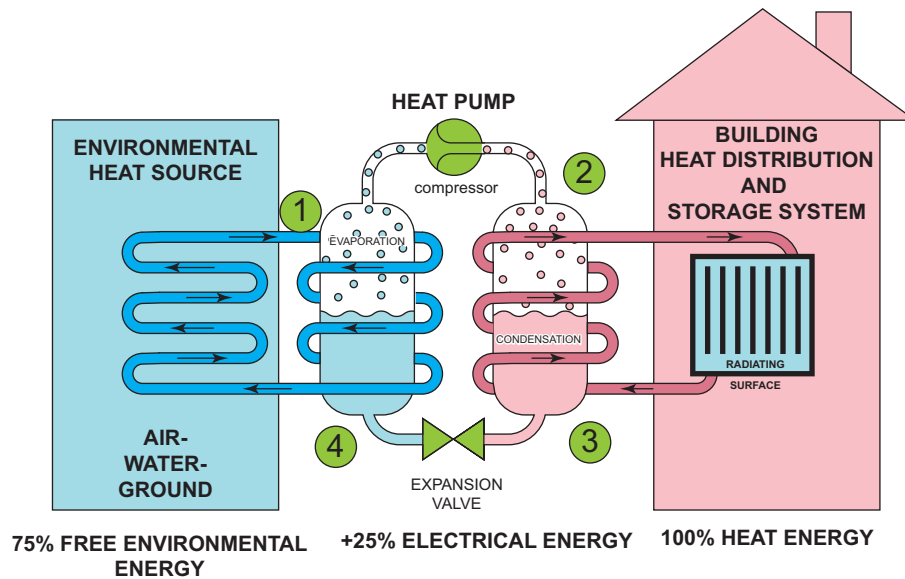

Figure 3.20 Heat pump working principle.
- 4 After giving up its heat energy, the refrigerant turns back into a liquid, and, after passing through an expansion valve, is once more ready to absorb energy from the environment and the cycle is repeated, as shown in Fig. 3.20.